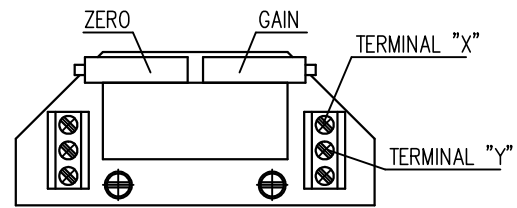

Fig.7
4.4.2 EPV – 3-wire version (Fig. 7)
- Adjust the resistive transmitter according to the previous chapter. The resistance is to be metered on the terminals X-Y (Fig. 7). The used transmitter resistance is 2000Ω or 100 Ω.
- Turn the adjusting trimmer ZERO (Fig. 7) to adjust the output current signal rate measured on the terminals 81-82 to 0 mA or 4mA.
- Turn the adjusting trimmer GAIN (Fig. 7) to adjust the output current signal rate measured on the terminals 81-82 to 20mA or 5 mA..